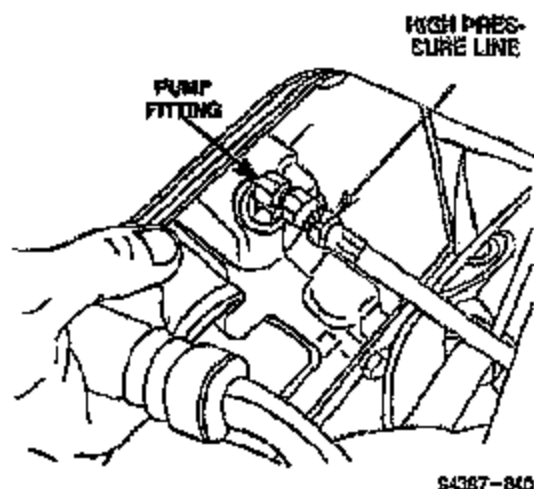
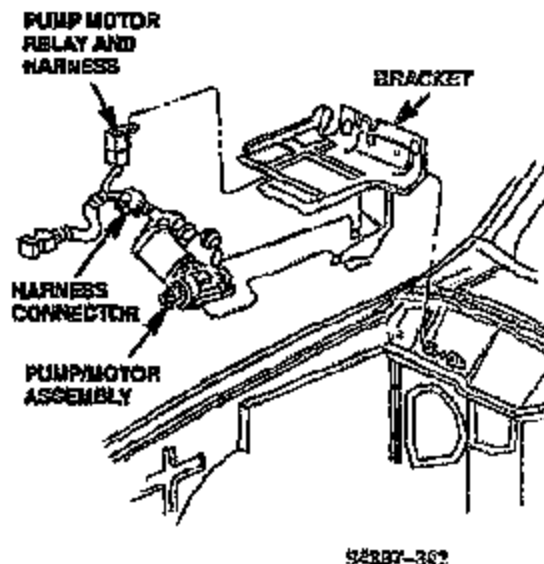

Figure 13
Figure 14
8. Disconnect the high pressure hose from the pump/motor (Figure 13).
9. Remove the four (4) pump/motor bracket attaching bolts.
10. Remove the pump/motor and bracket assembly from the engine compartment (Figure 14).
11. Remove the pump/motor assembly from the mounting bracket (Figure 14).
13. Position the pump/motor and bracket assembly into the engine compartment. Install the four (4) attaching bolts and tighten securely (Figure 14).